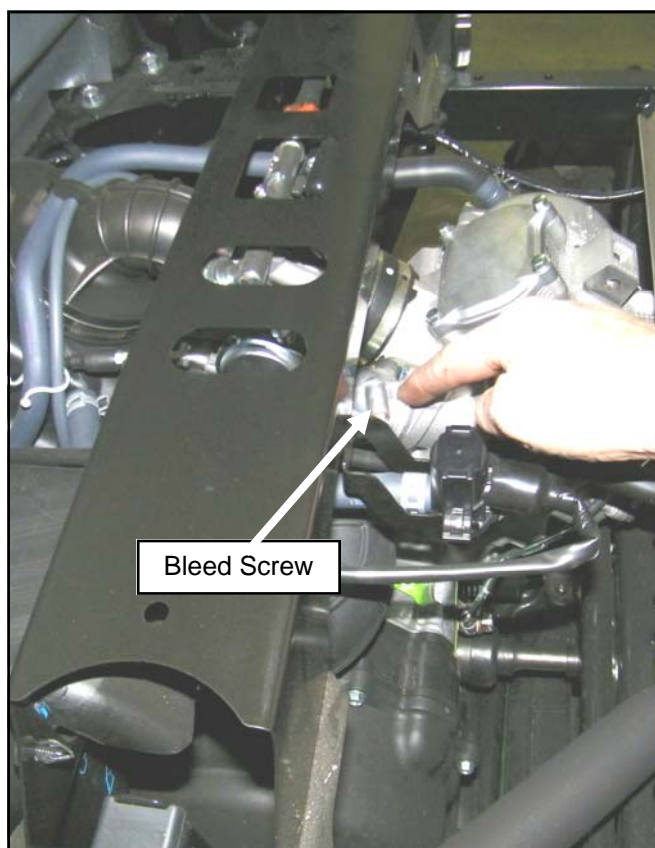

FIGURE 4.5
5. Crack open the bleed screw on the engine as shown in Figure 4.5. Close screw as soon as air is clear and coolant begins to flow out.
7. Allow the system to cool and then open the bleed screw on the engine as shown in Figure 4.5. Shake the heater box with the nipple pointing upward and open the bleeders on the heater lines to eliminate any additional trapped air. Check the coolant level in the radiator and repeat step 6.